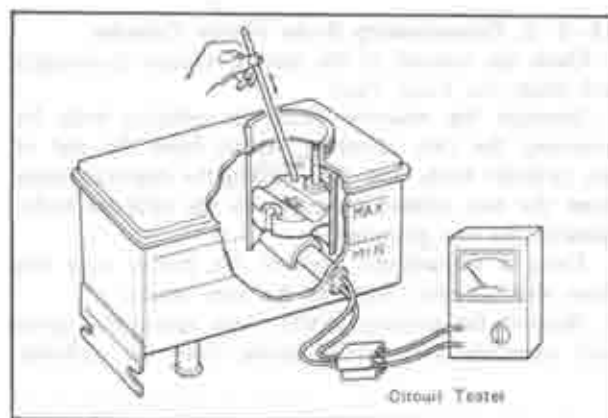

Fig. 11-6 Check fluid level sensor
- Connect the circuit tester to the coupler and check the continuity by moving the float up and down as shown in Fig. 11-6.